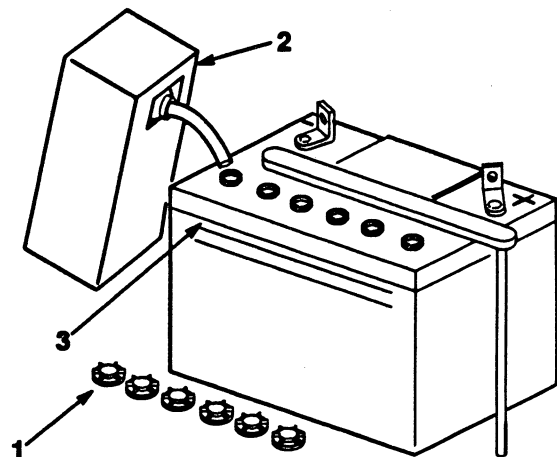

Figure 4
- Unscrew six filler caps from the battery. Slowly pour electrolyte into each cell until the level is up to the "UPPER" line on the battery case (Fig. 4).
5. Slowly pour electrolyte into each cell until the level is once again up to the "UPPER" line on the battery case (Fig. 4).